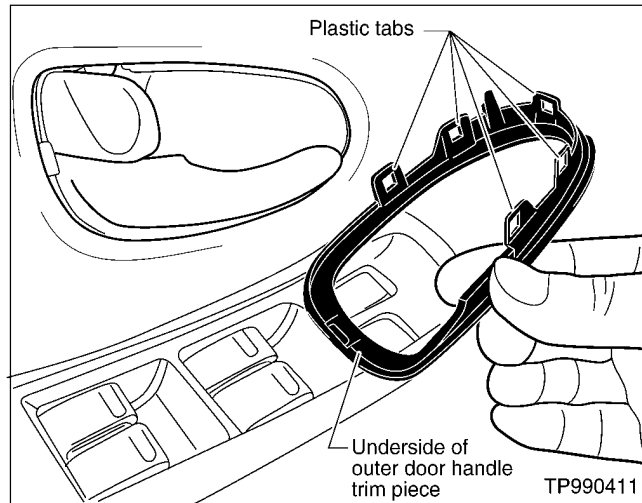

Figure 12
- E. Remove the outer door handle trim piece (see Figure 12 for a view of the trim piece removed).